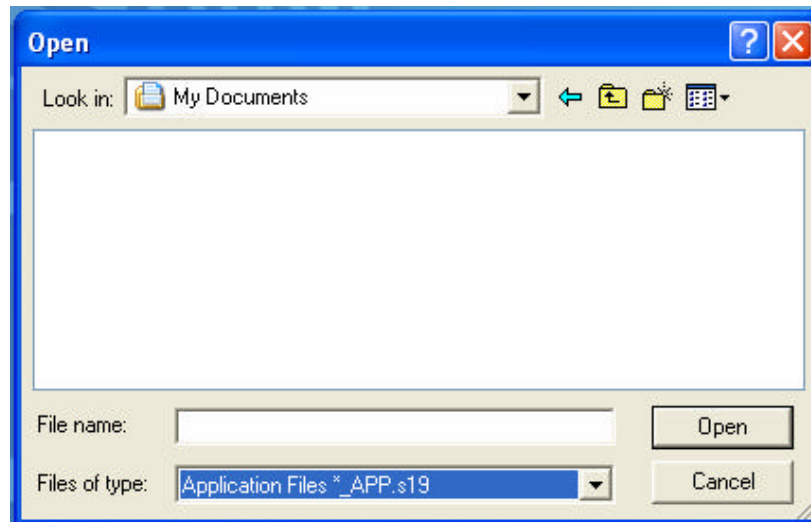

Figure 14 Open Screen
3. Enter the path name to the new released file. If the user does not know the path name, press the Browse button and Figure 14 will be displayed. Locate and click on the file and click the Open button. The File Name field will be completed for you.